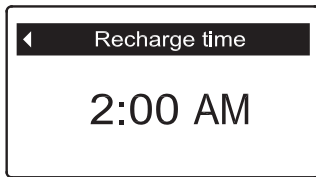

FIG. 63
4. Press the SELECT (○) button to display the Recharge time screen (See Figure 63).